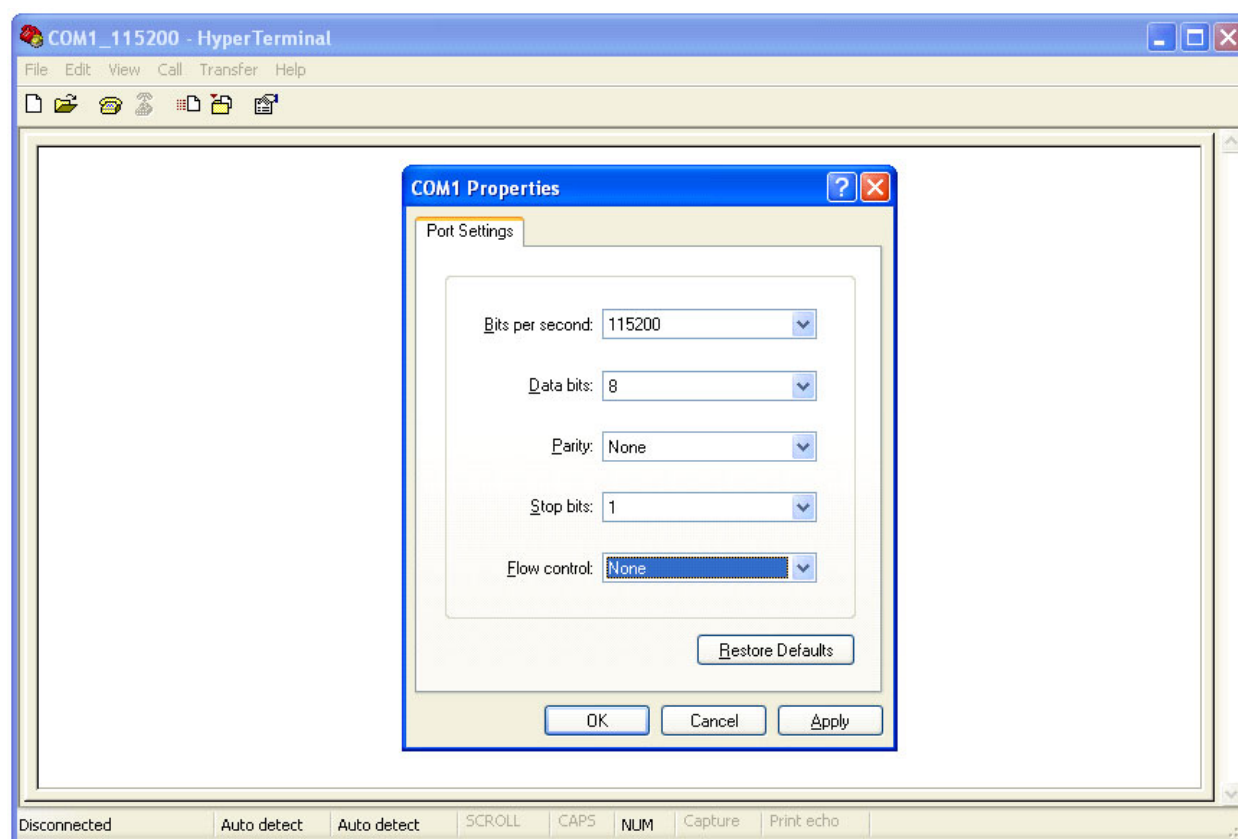

Figure A-12. COM1 Properties
4. Configure the virtual COM port baudrate and other properties as shown in Figure A-12.